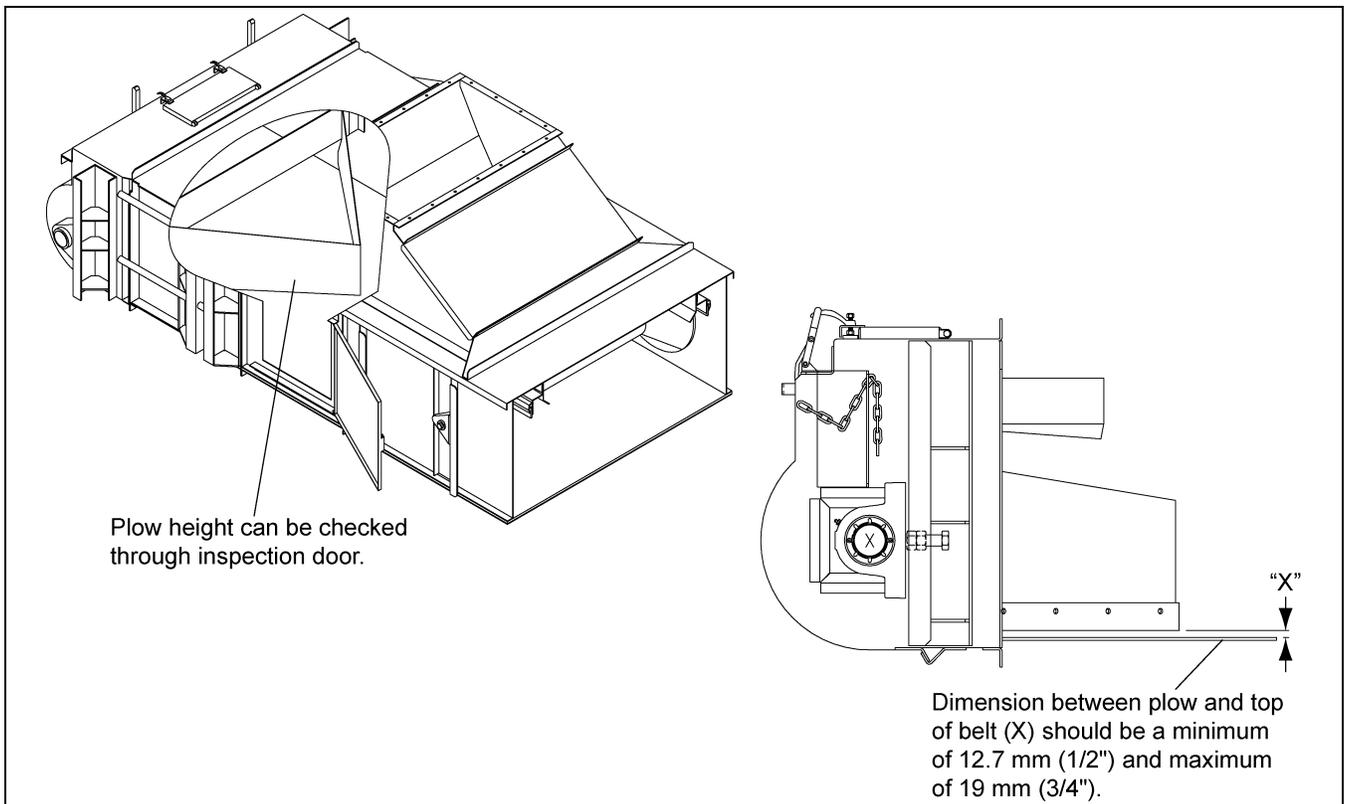

Figure 6C Tail Plow Height Adjustment
6. Adjust plow height to between 12 mm and 16 mm above belt. (See Figure 6C on Page 51.)